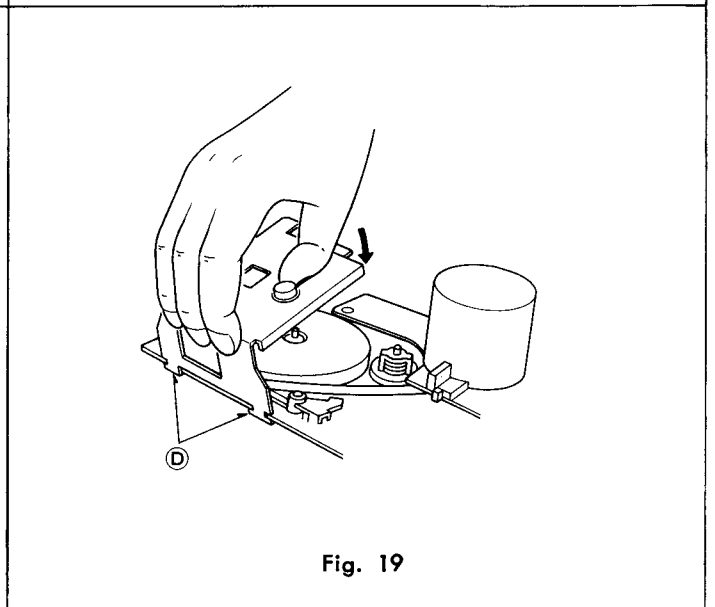

Fig. 19
4. Shift down the flywheel retainer, supported at points (D), in the direction of the arrow as illustrated fig. 19.